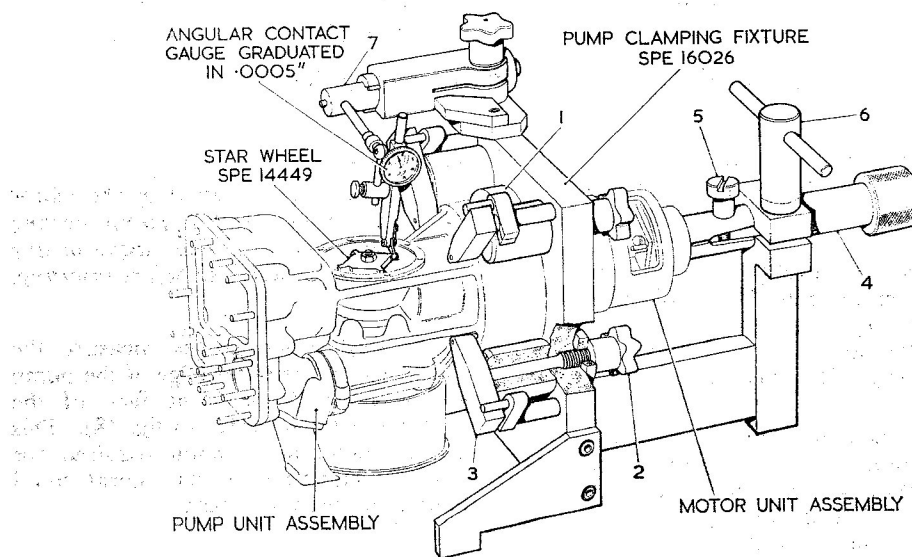

Fig. 19. Tools for checking gear alignment
- (2) Place the starwheel SPE. 14449 (fig. 19) on top of the gear and align it so
Gear alignment (refer to fig. 19)
- (2) Clamp the motor shaft nut in the indexing rod (4, fig. 19) by tightening the clamp screw (5).
- (3) Fit the angular contact clock gauge (graduated in 0.005 in.) to the fixture shaft.
- (4) Set one arm of the starwheel SPE. 14449 in line with the centre line of the motor unit, and locate the ball of the clock gauge in the starwheel.
- (5) To prevent any movement of the motor shaft secure the index rod (4, fig. 19) in position by tightening the locking screw (6).